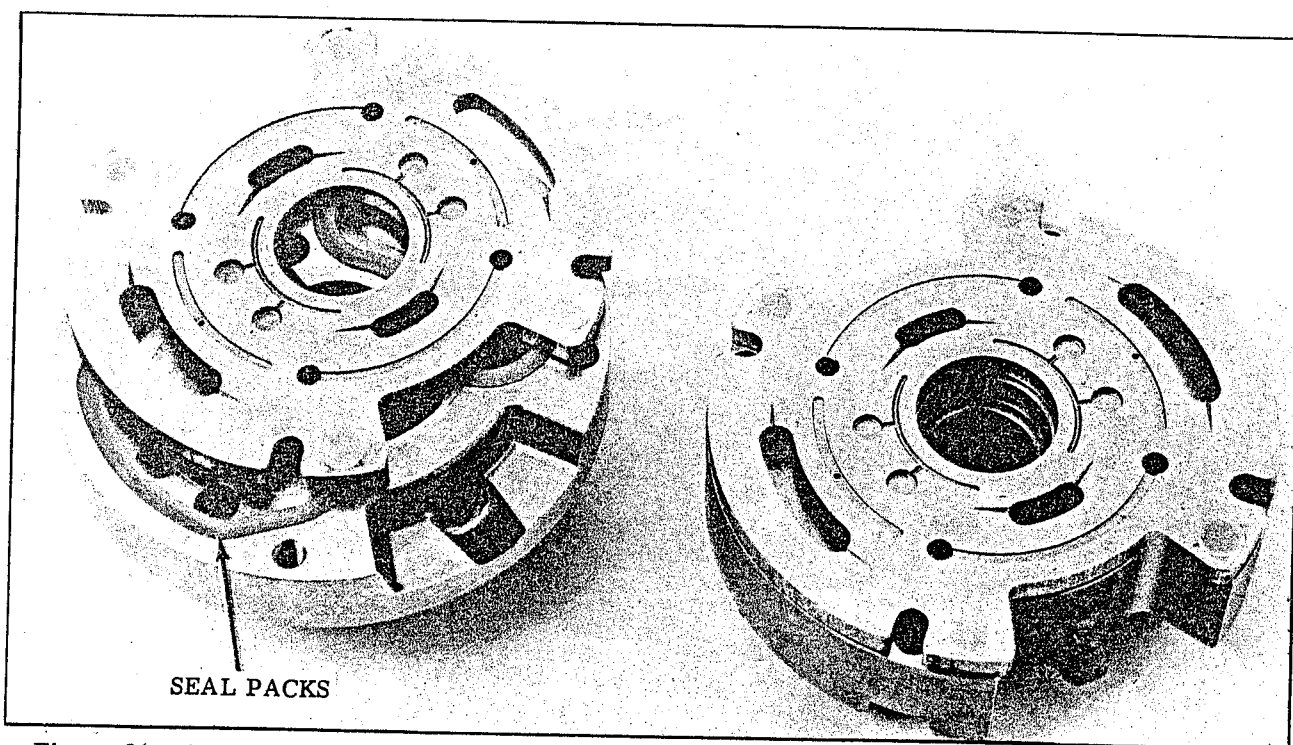

Figure 21. Assembly of Flex Side Plates over Seal Packs onto the Inlet and Outlet Support Plates.
- a. Place the inlet and outlet support plates on a flat surface as shown in Figure 21. Install seal pack subassemblies (22 and 25) into cavities with seal retainer surface up. ("O" Rings facing downward into the cavities).